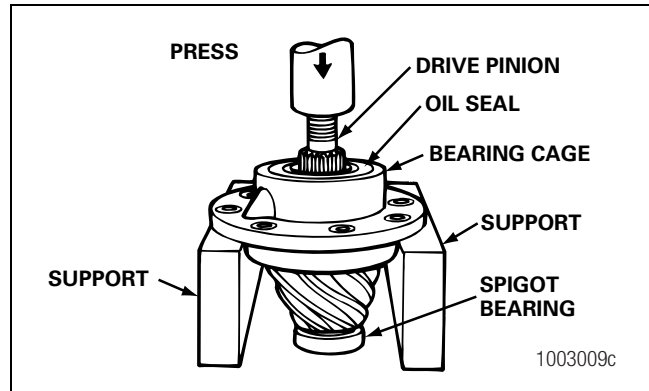

Figure 3.26
1. Place the drive pinion and bearing cage in a press. The pinion shaft must be toward the top of the assembly. Figure 3.26.
2. Support the bearing cage under the flange area with metal or wood blocks. Figure 3.26.
3. Press the drive pinion through the bearing cage. The inner bearing cone and bearing spacer will remain on the pinion shaft. Figure 3.26.